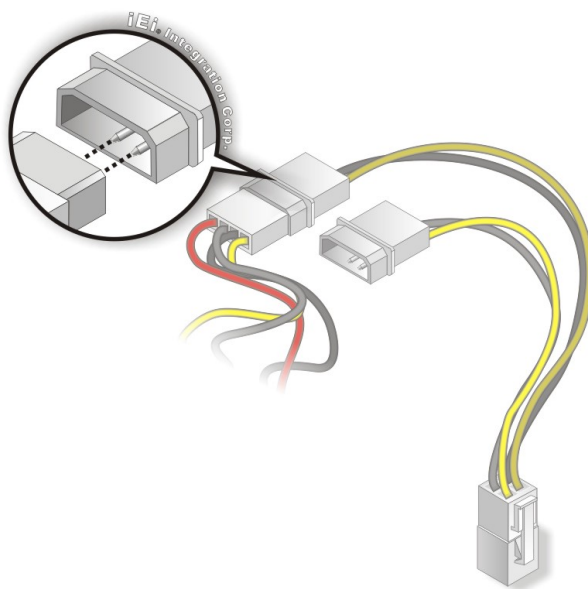

Figure 4-20: Connect Power Cable to Power Supply
**Step 3: Connect Power Cable to Power Supply.** Connect one of the 4-pin (1x4) Molex type power cable connectors to an AT power supply. See Figure 4-20.